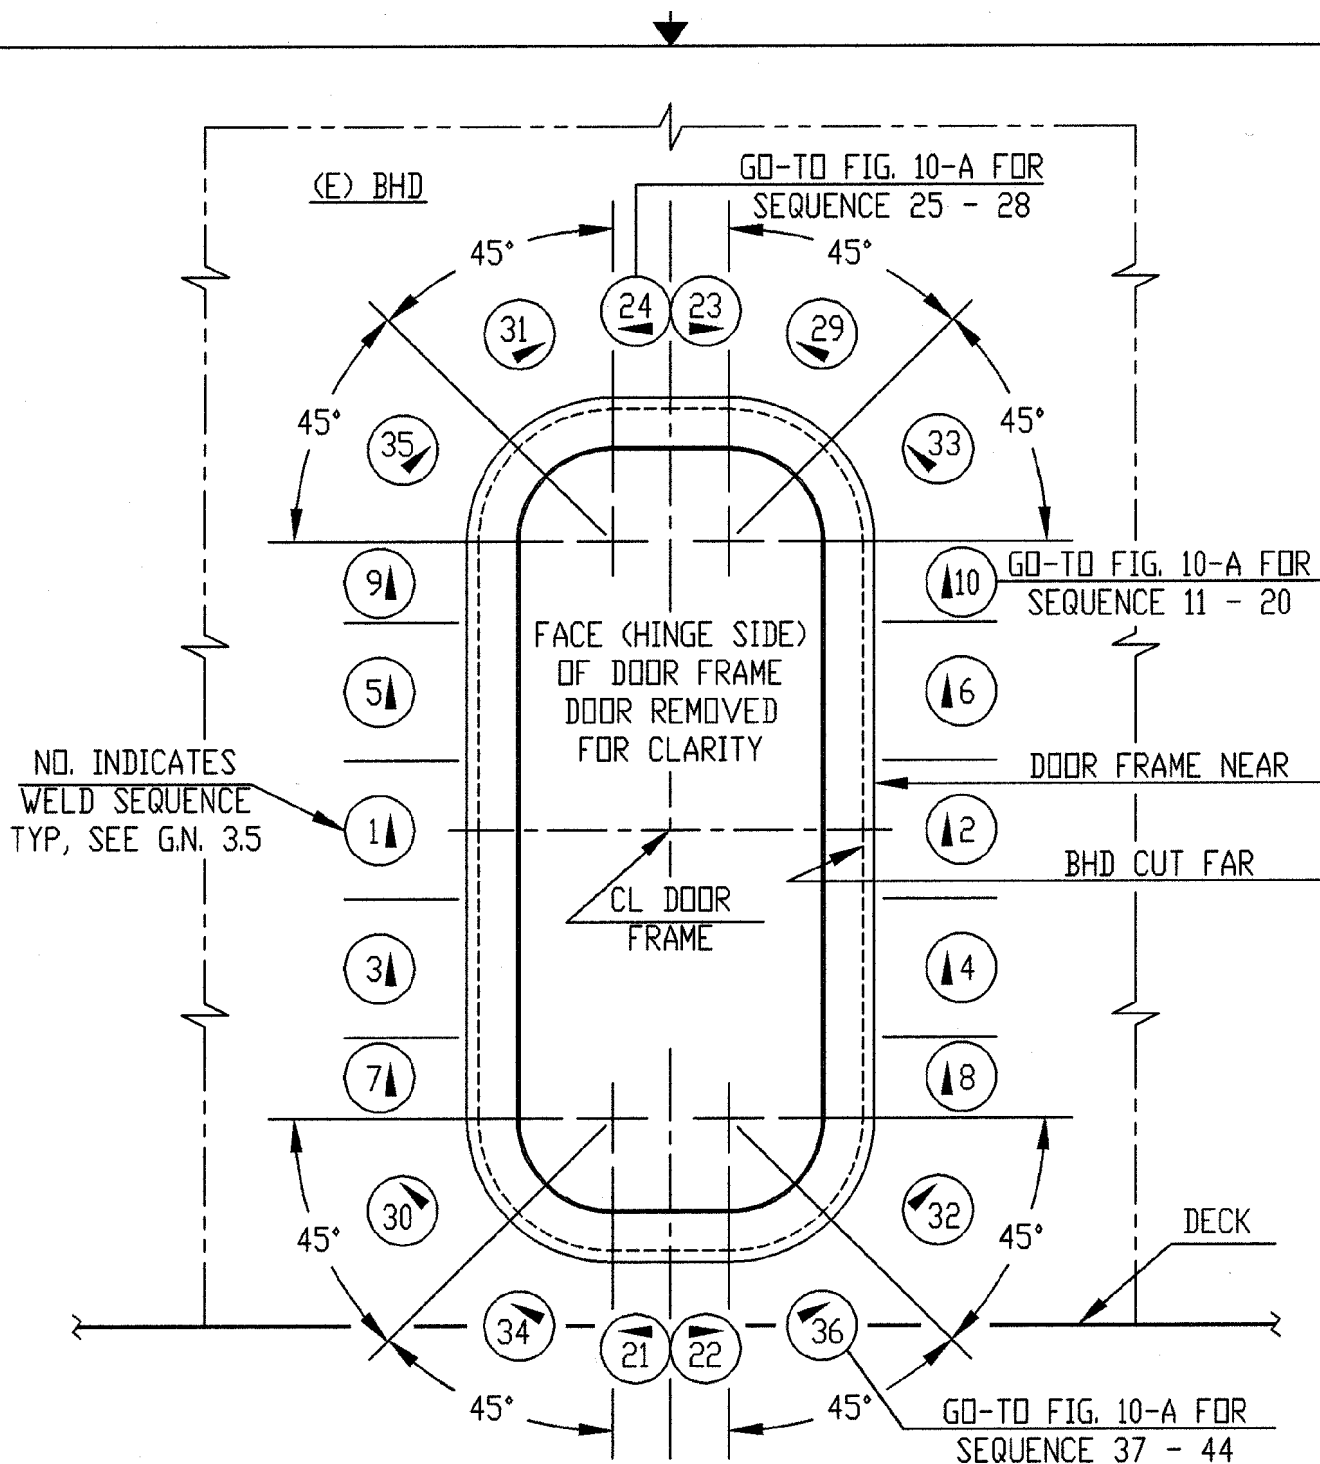

FIGURE 9-A
- 3.5 WELD FRAME TO BULKHEAD USING PROPER WELDING PROCEDURES AND THE SEQUENCE SHOWN IN **FIGURES 9-A AND 10-A**, SHEET 9 AND 10, TO MINIMIZE WARPING OF THE DOORFRAME AND BULKHEAD. SINCE EVERY DOOR INSTALLATION IS UNIQUE, THE WELDING SEQUENCE MAY REQUIRE TAILORING TO SUIT LOCAL CONDITIONS. KEY FEATURES OF THIS SEQUENCE TO NOTE ARE:
SEE FIGURE 9-A FOR INFO NOT SHOWN & REMAINDER OF WELDING PATTERN AND G.N. 3.5